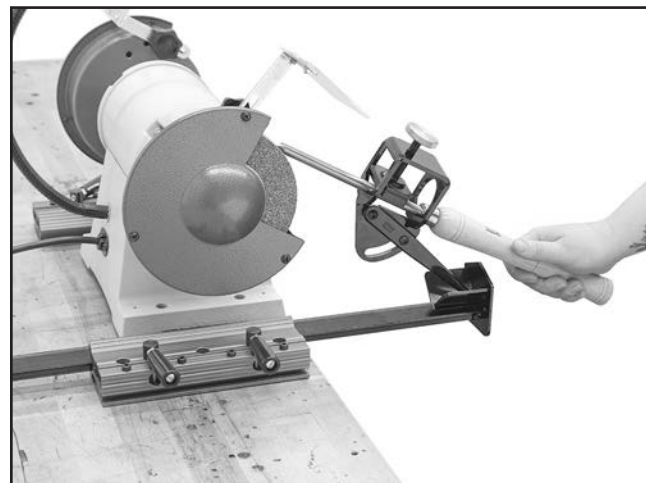

Figure 5. Gouge attachment in use.
6. Use firm grip to return tool to surface of grinding wheel to perform grinding operation (see **Figure 5**). Pivot and move attachment to follow gouge profile.